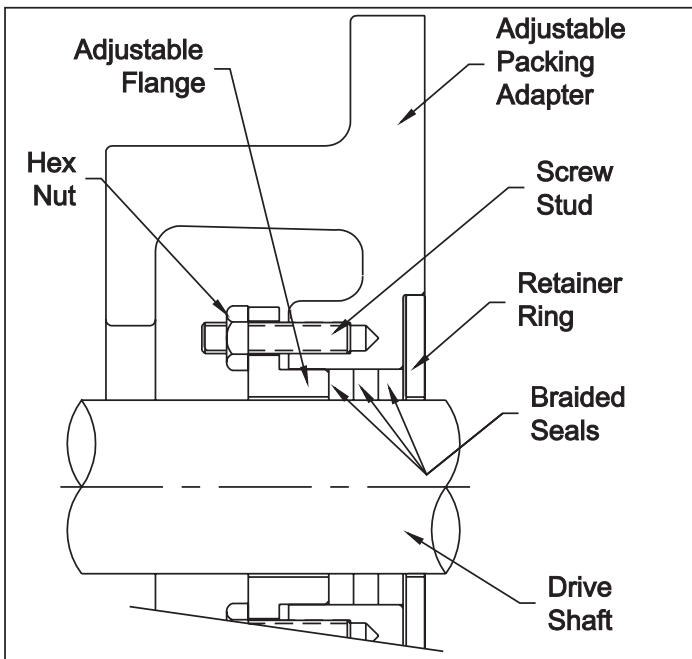

Figure 2 - Optional Adjustable Packing Adapter
- Install two screws in studs in the adapter. Use Loctite on threads (see Figure 2).